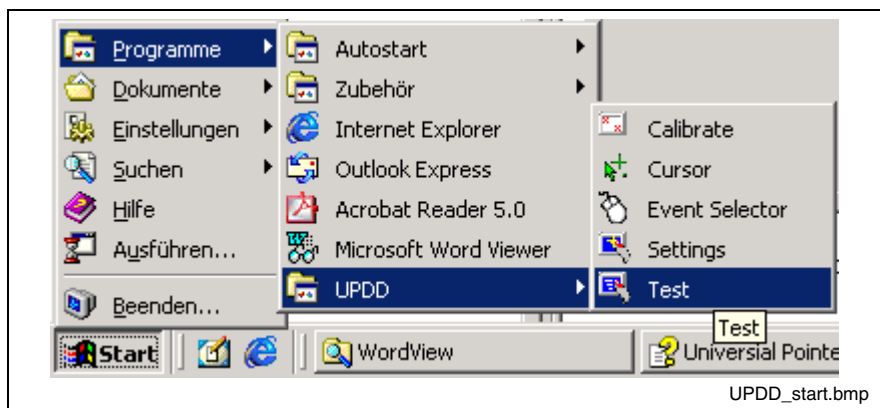

Fig. 9-10: UPDD setup programs for the touch screen
- Fig. 9-10: UPDD setup programs for the touch screen 9-11